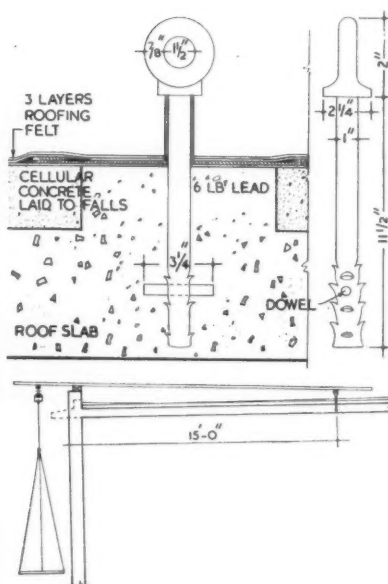

Fig. 24. Standard detail of permanent cradle bolt and method of hanging cradles
**Roof Cradle Bolts.** Owing to wide differences in practice and to the dissatisfaction of maintenance engineers with the facilities provided, a standard roof cradle bolt was designed to take suspended scaffolds for the repainting and reglazing of flats over five storeys in height (Fig. 24).